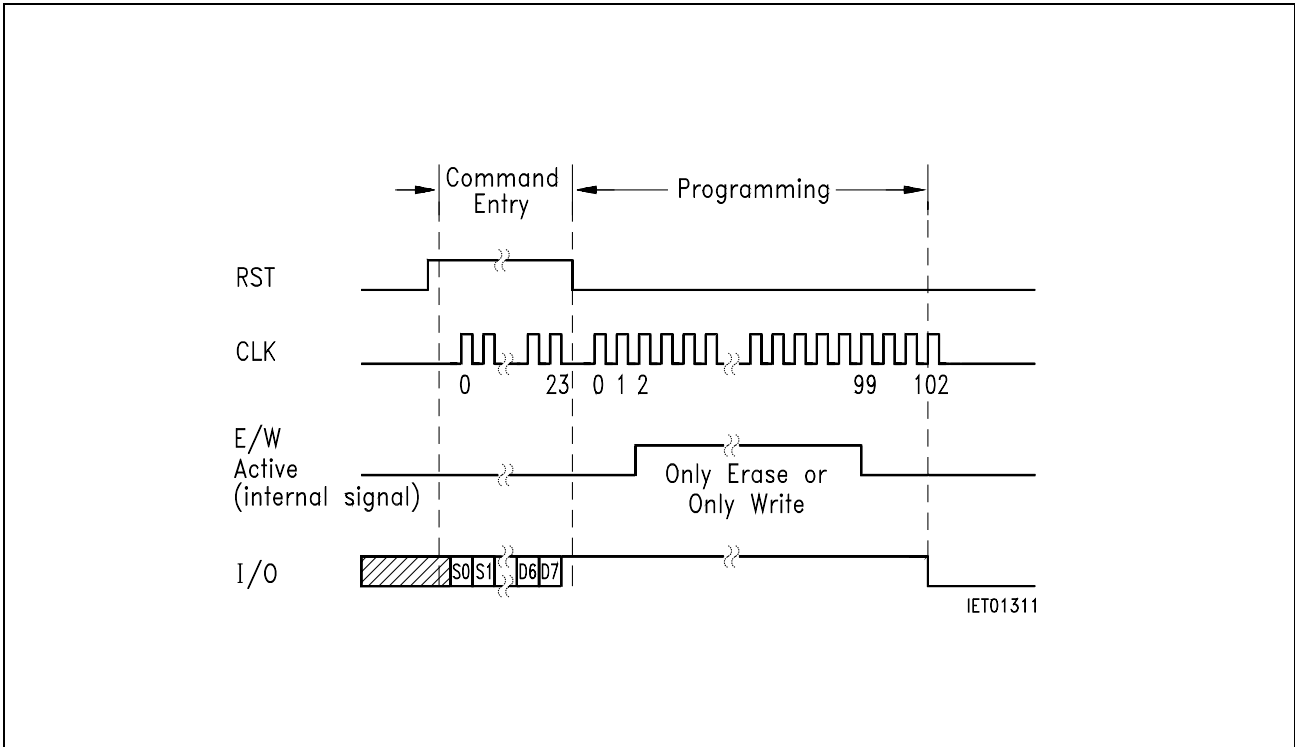

Figure 6
- Write only: This procedure is suitable if single bits of one byte shall be changed only from “1” to “0”. (duration 103 clock pulses, $f \leq 20$ kHz) (Fig.6)
- Erase only (= FF; duration 103 clock pulses, $f \leq 20$ kHz) (Fig.6).